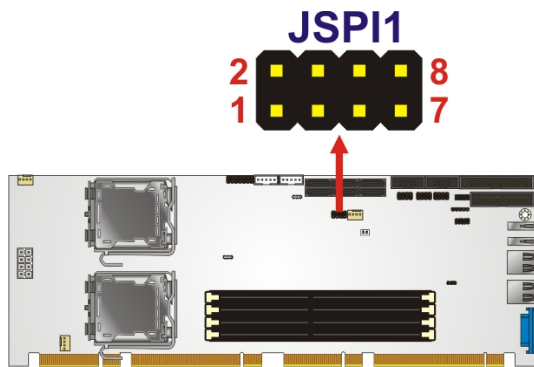

Figure 3-15: SPI Flash Connector Pinouts
- CN Location:** See Figure 3-15